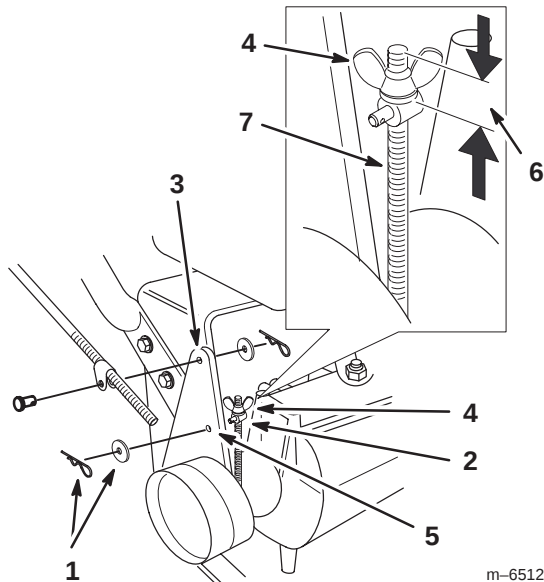

Figure 41
Note: For the initial adjustment, adjust the wing nut until it is 1–1/4 inches from the top of the rod (Fig. 41).
5. To adjust the brake remove the hair pin cotter and washer from the brake lever and trunnion (Fig. 41).
8. Install the trunnion into hole F (Fig. 41). Tighten the wing nut.
9. Secure trunnion to brake lever with washer and hair pin cotter (Fig. 41).